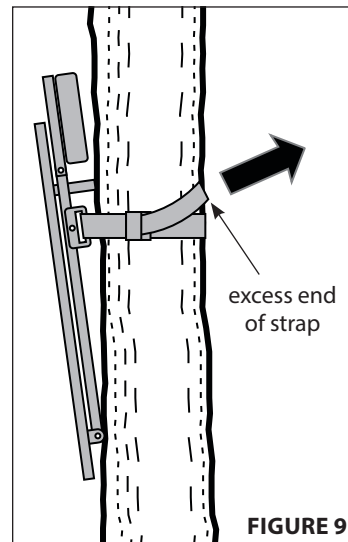

FIGURE 9
c. Pull on excess end of strap firmly - snugging up stand to tree. **SEE FIGURE 9**